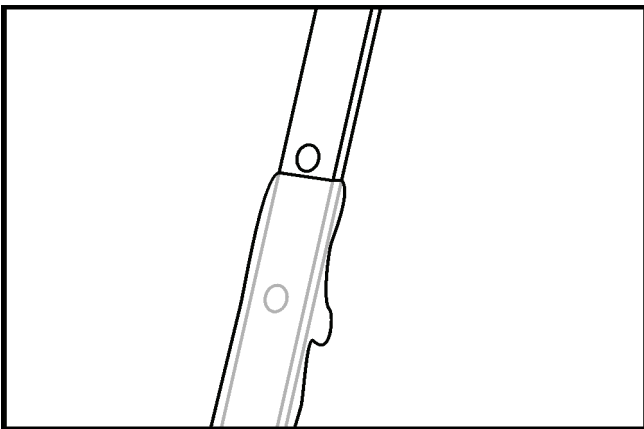

Figure 5-53
- Check the transmission fluid level with the engine turned off and the oil at normal operating temperature. The fluid level should be between the two dots on the dipstick (**Figure 5-53**).